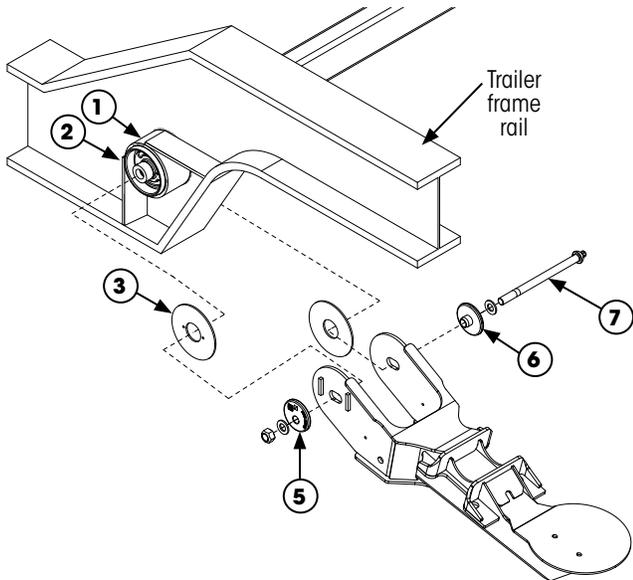
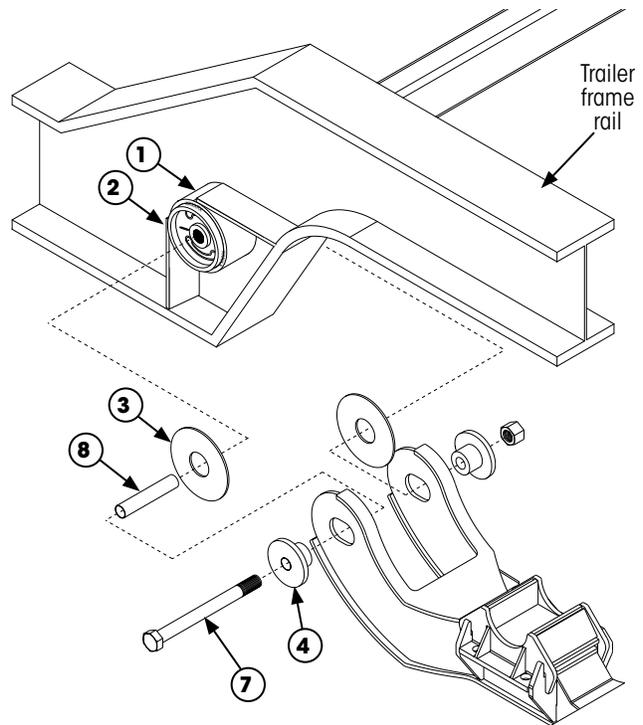
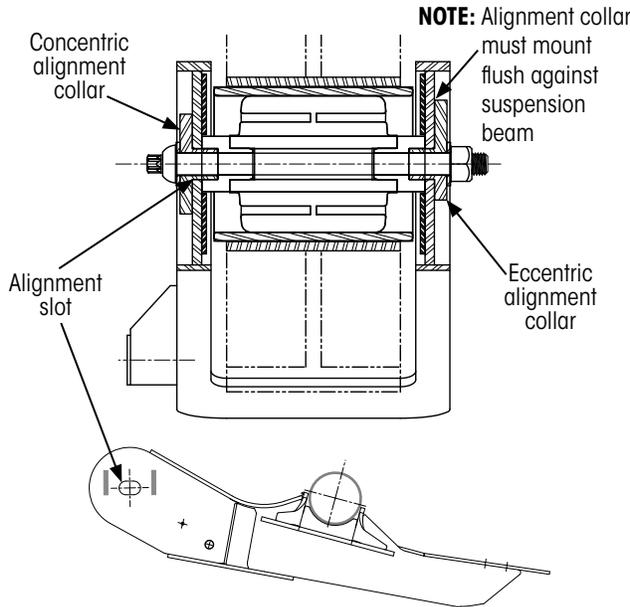
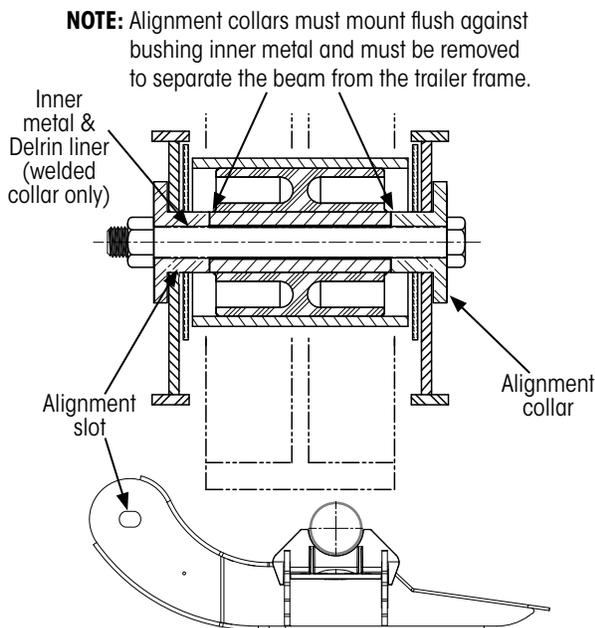

Figure 48: QUIK-ALIGN® pivot connection hardware
Figure 49: Welded collar pivot connection hardware
Figure 50: Y-beam QUIK-ALIGN alignment collar pivot connection
Figure 51: Y-beam Welded alignment collar pivot connection
HT™ Series Y-beam suspensions differ from other suspension beams because they do not require a frame bracket. The fork or “Y” of the beam connects directly to the trailer frame using the bushing tube sleeve (Figure 48 and Figure 49, item 1).
Removal and installation of the bushing assembly (Figure 48 and Figure 49, item 2) does not require the bushing removal tool.
Removal of the pivot connection hardware for both QUIK-ALIGN® alignment systems is similar to suspensions with frame brackets. For the recommended procedure, refer to QUIK-ALIGN on page 5. Reference Figure 50 and Figure 51.
However, for welded collar alignment systems, to separate the Y-beam from the trailer frame, the collars must be removed as defined in the following procedure. Reference Figure 50 and Figure 51.
2. **Lift and position** Y-beam subassembly relative to vehicle frame rail as indicated in Figure 48 or Figure 49.
- A. **QUIK-ALIGN Style Pivot Connection** (Figure 48 on page 22). **Reassemble** as follows:
Welded collars were removed and discarded during pivot connection disassembly. New collars are required for this procedure. Refer to Figure 7 on page 6, Figure 49 on page 22 and Figure 51 on page 23.
- i. **Insert** provided Delrin[®] liner (Table 3 on page 22, item 8) through the alignment slot and bushing inner metal (Figure 49 and Figure 51).